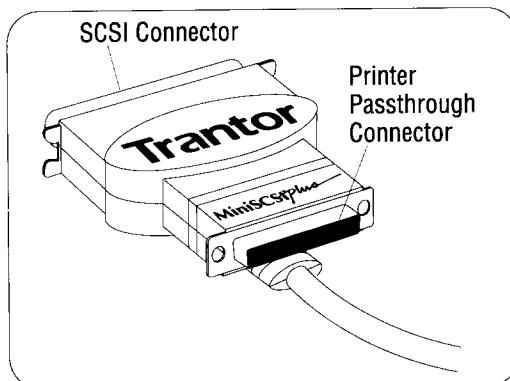

Figure 2 SCSI and Printer Passthrough
Plus adapter (see *Figure 2*). Other SCSI devices (up to 7 total) may be daisy-chained to the first SCSI device; see your dealer for details if you are not familiar with multiple-device connections.
3. If you wish to simultaneously use a parallel printer with your **MiniSCSI Plus** adapter, connect it to the **MiniSCSI Plus** printer passthrough connector (see *Figure 2*) with a standard parallel printer cable. No special configuration or switching is needed to continue using your printer.